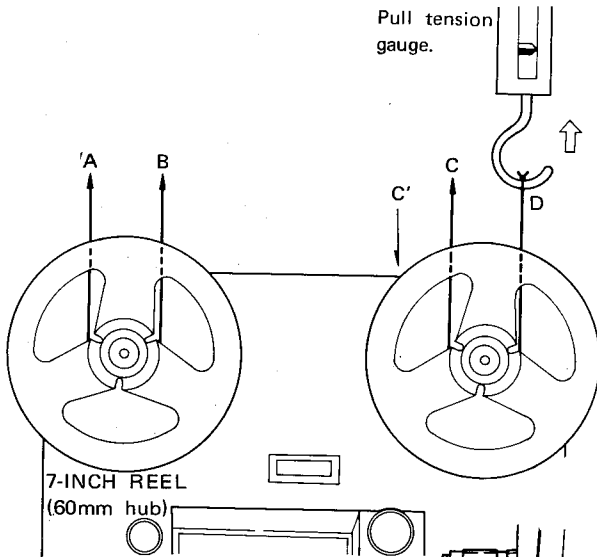

Fig. 11
● **Back Tension Torque at Playback (Figs. 11, 12)**
2. Set tape deck in vertical position in playback mode at 7-1/2 ips (19cm/s). Measure back tension of supply reel base by pulling tension gauge in B direction as shown in Fig. 11.
● **Take-up Torque at Playback (Figs. 11, 12)**
2. Set tape deck in vertical position and in playback mode at 7-1/2 ips (19cm/s). Measure take-up torque of take-up reel base (While moving tension gauge slowly in C' direction as shown in Fig.11, read value of the gauge.)
● **Back Tension Torque at Fast Forward (Figs. 11, 12)**
1. Set tape deck in vertical position in fast forward mode. Measure back tension of supply reel base (pull in B direction as shown in Fig. 11).